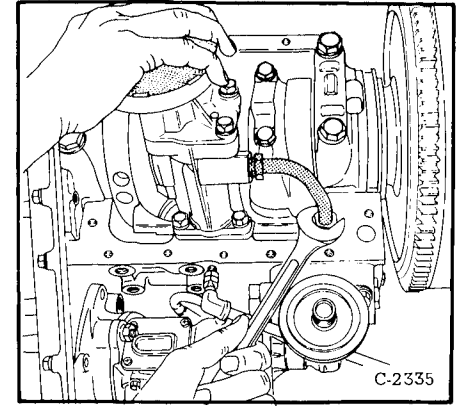

Fig. 8-55A Disconnect the Oil Pipe
- (1) Disconnect the oil pipe (Fig. 8-55A).
- (2) Remove the strainer case and pump cover. Then, remove the vane.
- (3) Remove the pin which holds the pinion.
- (4) Pull out the pin and remove the rotor.
- (5) Remove the rotor shaft.
- (6) Assemble the parts in the reverse order of disassembly.
- (7) When assembling operation is completed, check that the rotor shaft turns smoothly.